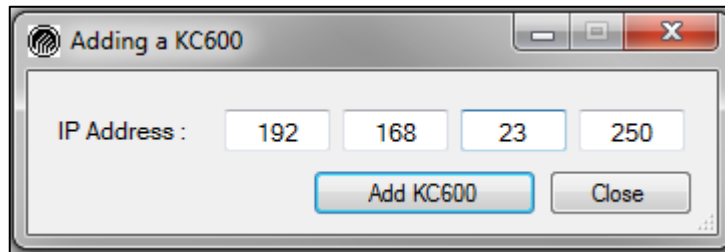

Figure 10: Window used to add a *KC600* to the current installation.
- Check if the IP address you entered, in the window of Figure 10, is the right one.